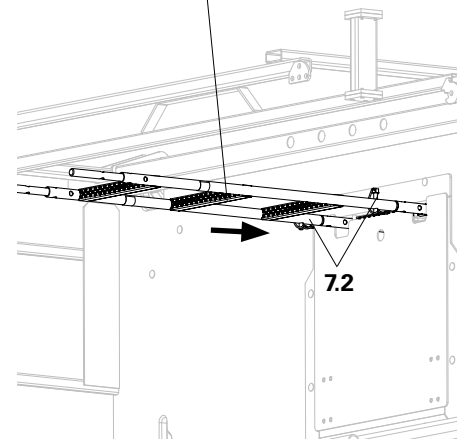

Fig. A9.02c
2. Attach ladder to bottom ladder and secure using retaining clips (7.2). (Fig. A9.02c)